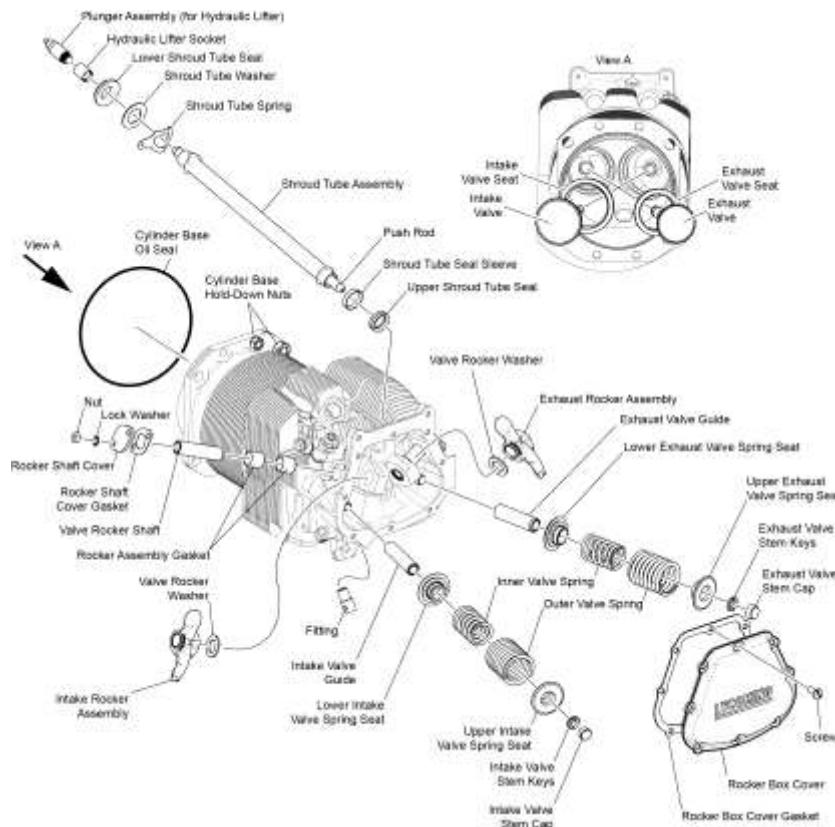

Figure 18
F. Remove the screws from the rocker box cover (Figure 18).
- G. Remove the rocker box cover (Figure 18) and gasket. Discard the gasket.
- K. Push the valve rocker shafts (Figure 18) outward and remove the rocker assemblies and bushings.
- R. Remove the cylinder base hold-down nuts (Figure 18).
- U. Remove the valve rocker shaft (Figure 18) from the engine cylinder
- D. Start from the top down, use a commercially available piston ring expander tool to remove the two top compression rings and the oil regulating piston expander ring (Figure 18).
Look for wear or broken parts in the area of the valve, springs, and spring seats. Corrective Action: Replace any broken or worn parts. (Figure 18).	Cylinder 1